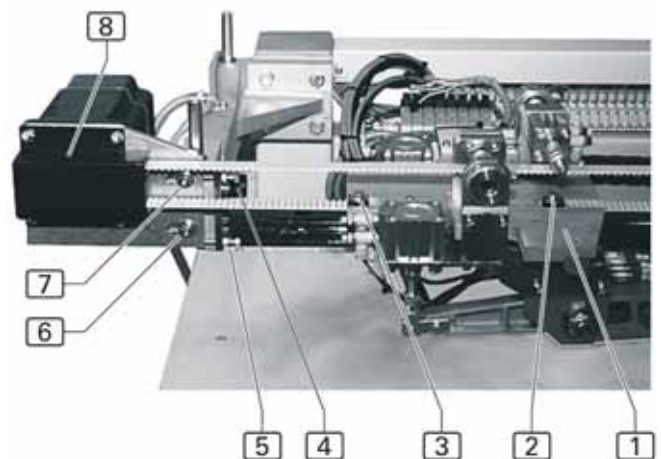

fig. 7
1. **fig. 7:** Slide clamp carriage [1] as far as possible towards the left end position.